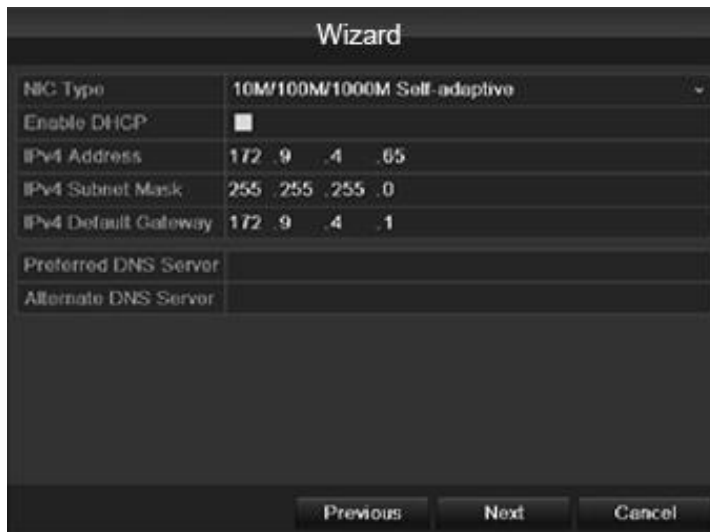

Figure 2.5 Network Configuration
5. Click **Next** button which takes you back to the **Network Setup Wizard** window, as shown in Figure 2.5. Set the network parameters, including the NIC type, IPv4 address, IPv4 subnet mask, default gateway, etc. You can enable the DHCP to automatically obtain an IP address and other network settings from that server.